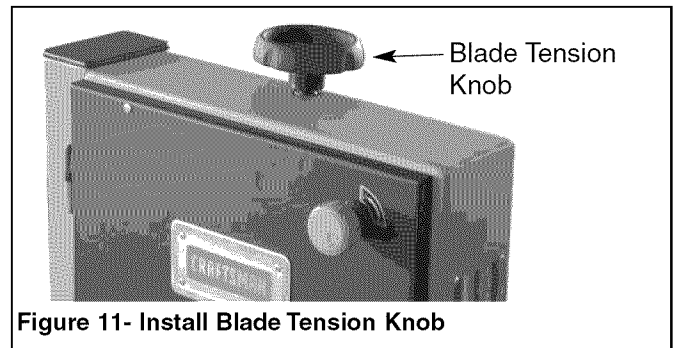

Figure 11- Install Blade Tension Knob
- Place the blade tension knob on to the blade tensioner (see Figure 11).